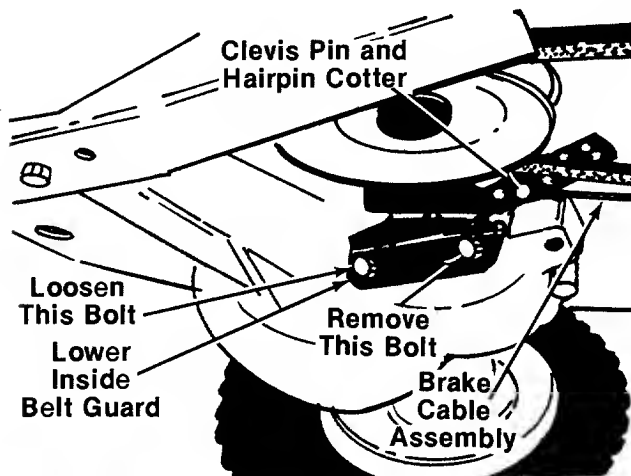

FIGURE 24.
7. Disconnect the brake cable from the lower inside belt guard by removing the hairpin cotter, clevis pin and flat washer. See figure 24.
8. Remove the front hex bolt from the lower inside belt guard as shown in figure 24.
9. Loosen the second bolt (do not remove), then pivot the guard downward, and slip the deck belt off the engine pulley. See figures 24 and 25.